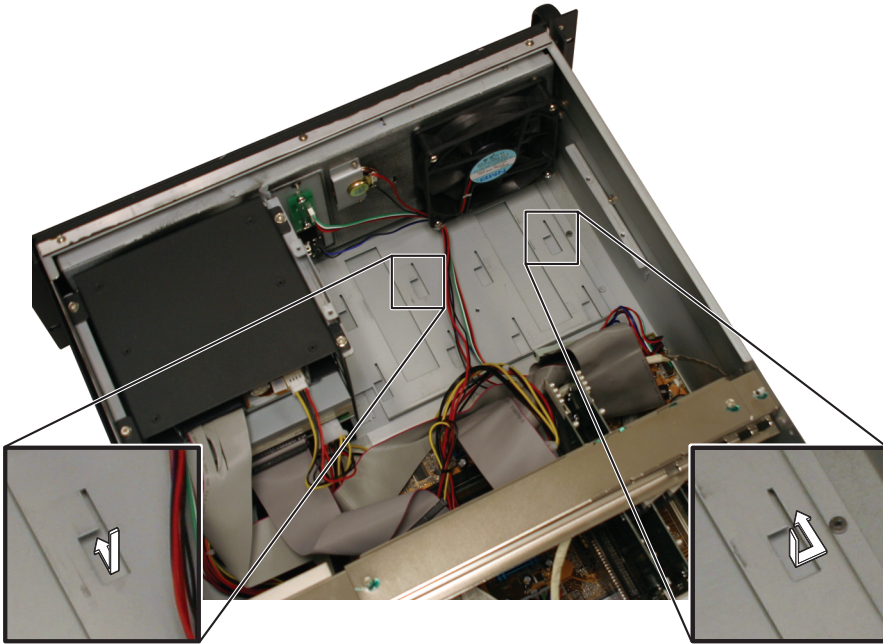

Figure 8. Reinstalling the Hard Drive Cages
10. Reinstall the hard drive cages by following steps 2-7 in reverse order. Refer to Figure 8 to see how the cages are locked in place in the bottom of the chassis.